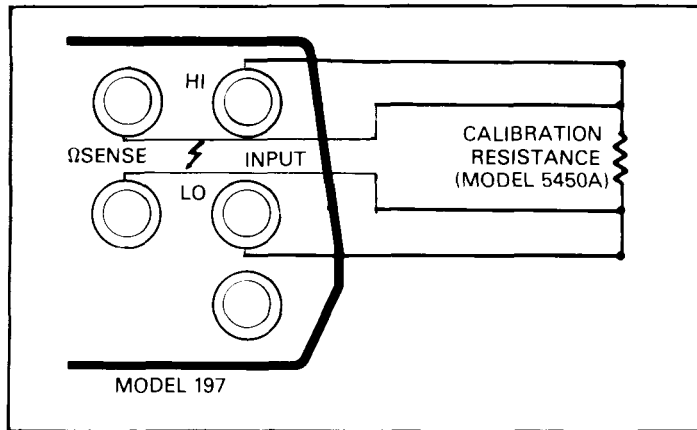

Figure 3-3. Connections for 200, 2k and 20k Range Verification (4-terminal)
3. Connect a 190 Ω calibration resistor as shown in Figure 3-3. Note that the 4-terminal configuration is used for this measurement.
5. Connect a 1.9k Ω calibration resistor to the instrument as shown in Figure 3-3. Switch the instrument to the 2k Ω range. Verify that the displayed reading is within the limits specified in Table 3-4.
6. Connect a 19k Ω calibration resistor to the instrument as shown in Figure 3-3. Switch the instrument to the 20k Ω range. Verify that the displayed reading is within the limits specified in Table 3-4.